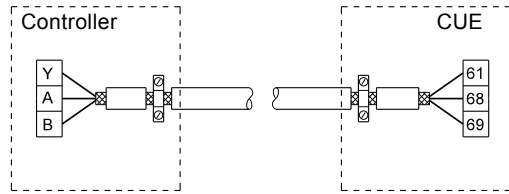
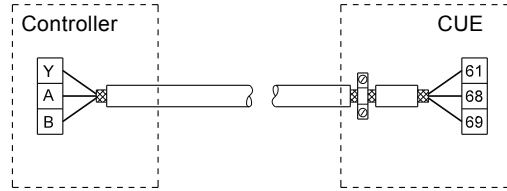

Fig. 22 Example of connection of a 3-conductor bus cable with screen connected at both ends
Fig. 23 Example of connection of a 3-conductor bus cable with screen connected at the CUE (controller with no cable clamps)
- Connect the screen to frame at both ends for both motor and signal cables. See fig. 22. If the controller has no cable clamps, connect only the screen to the CUE. See fig. 23.